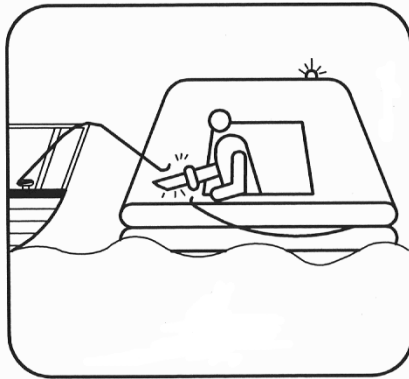

FIGURE 7
4. Cut the painterline with the knife (See Figure 7).